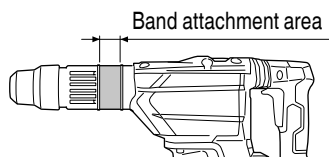

Fig. 11
- (2) Place the band over the band attachment area and fit the band's two holes onto the "T" portion of the handle bolt. (Fig. 11, 12)